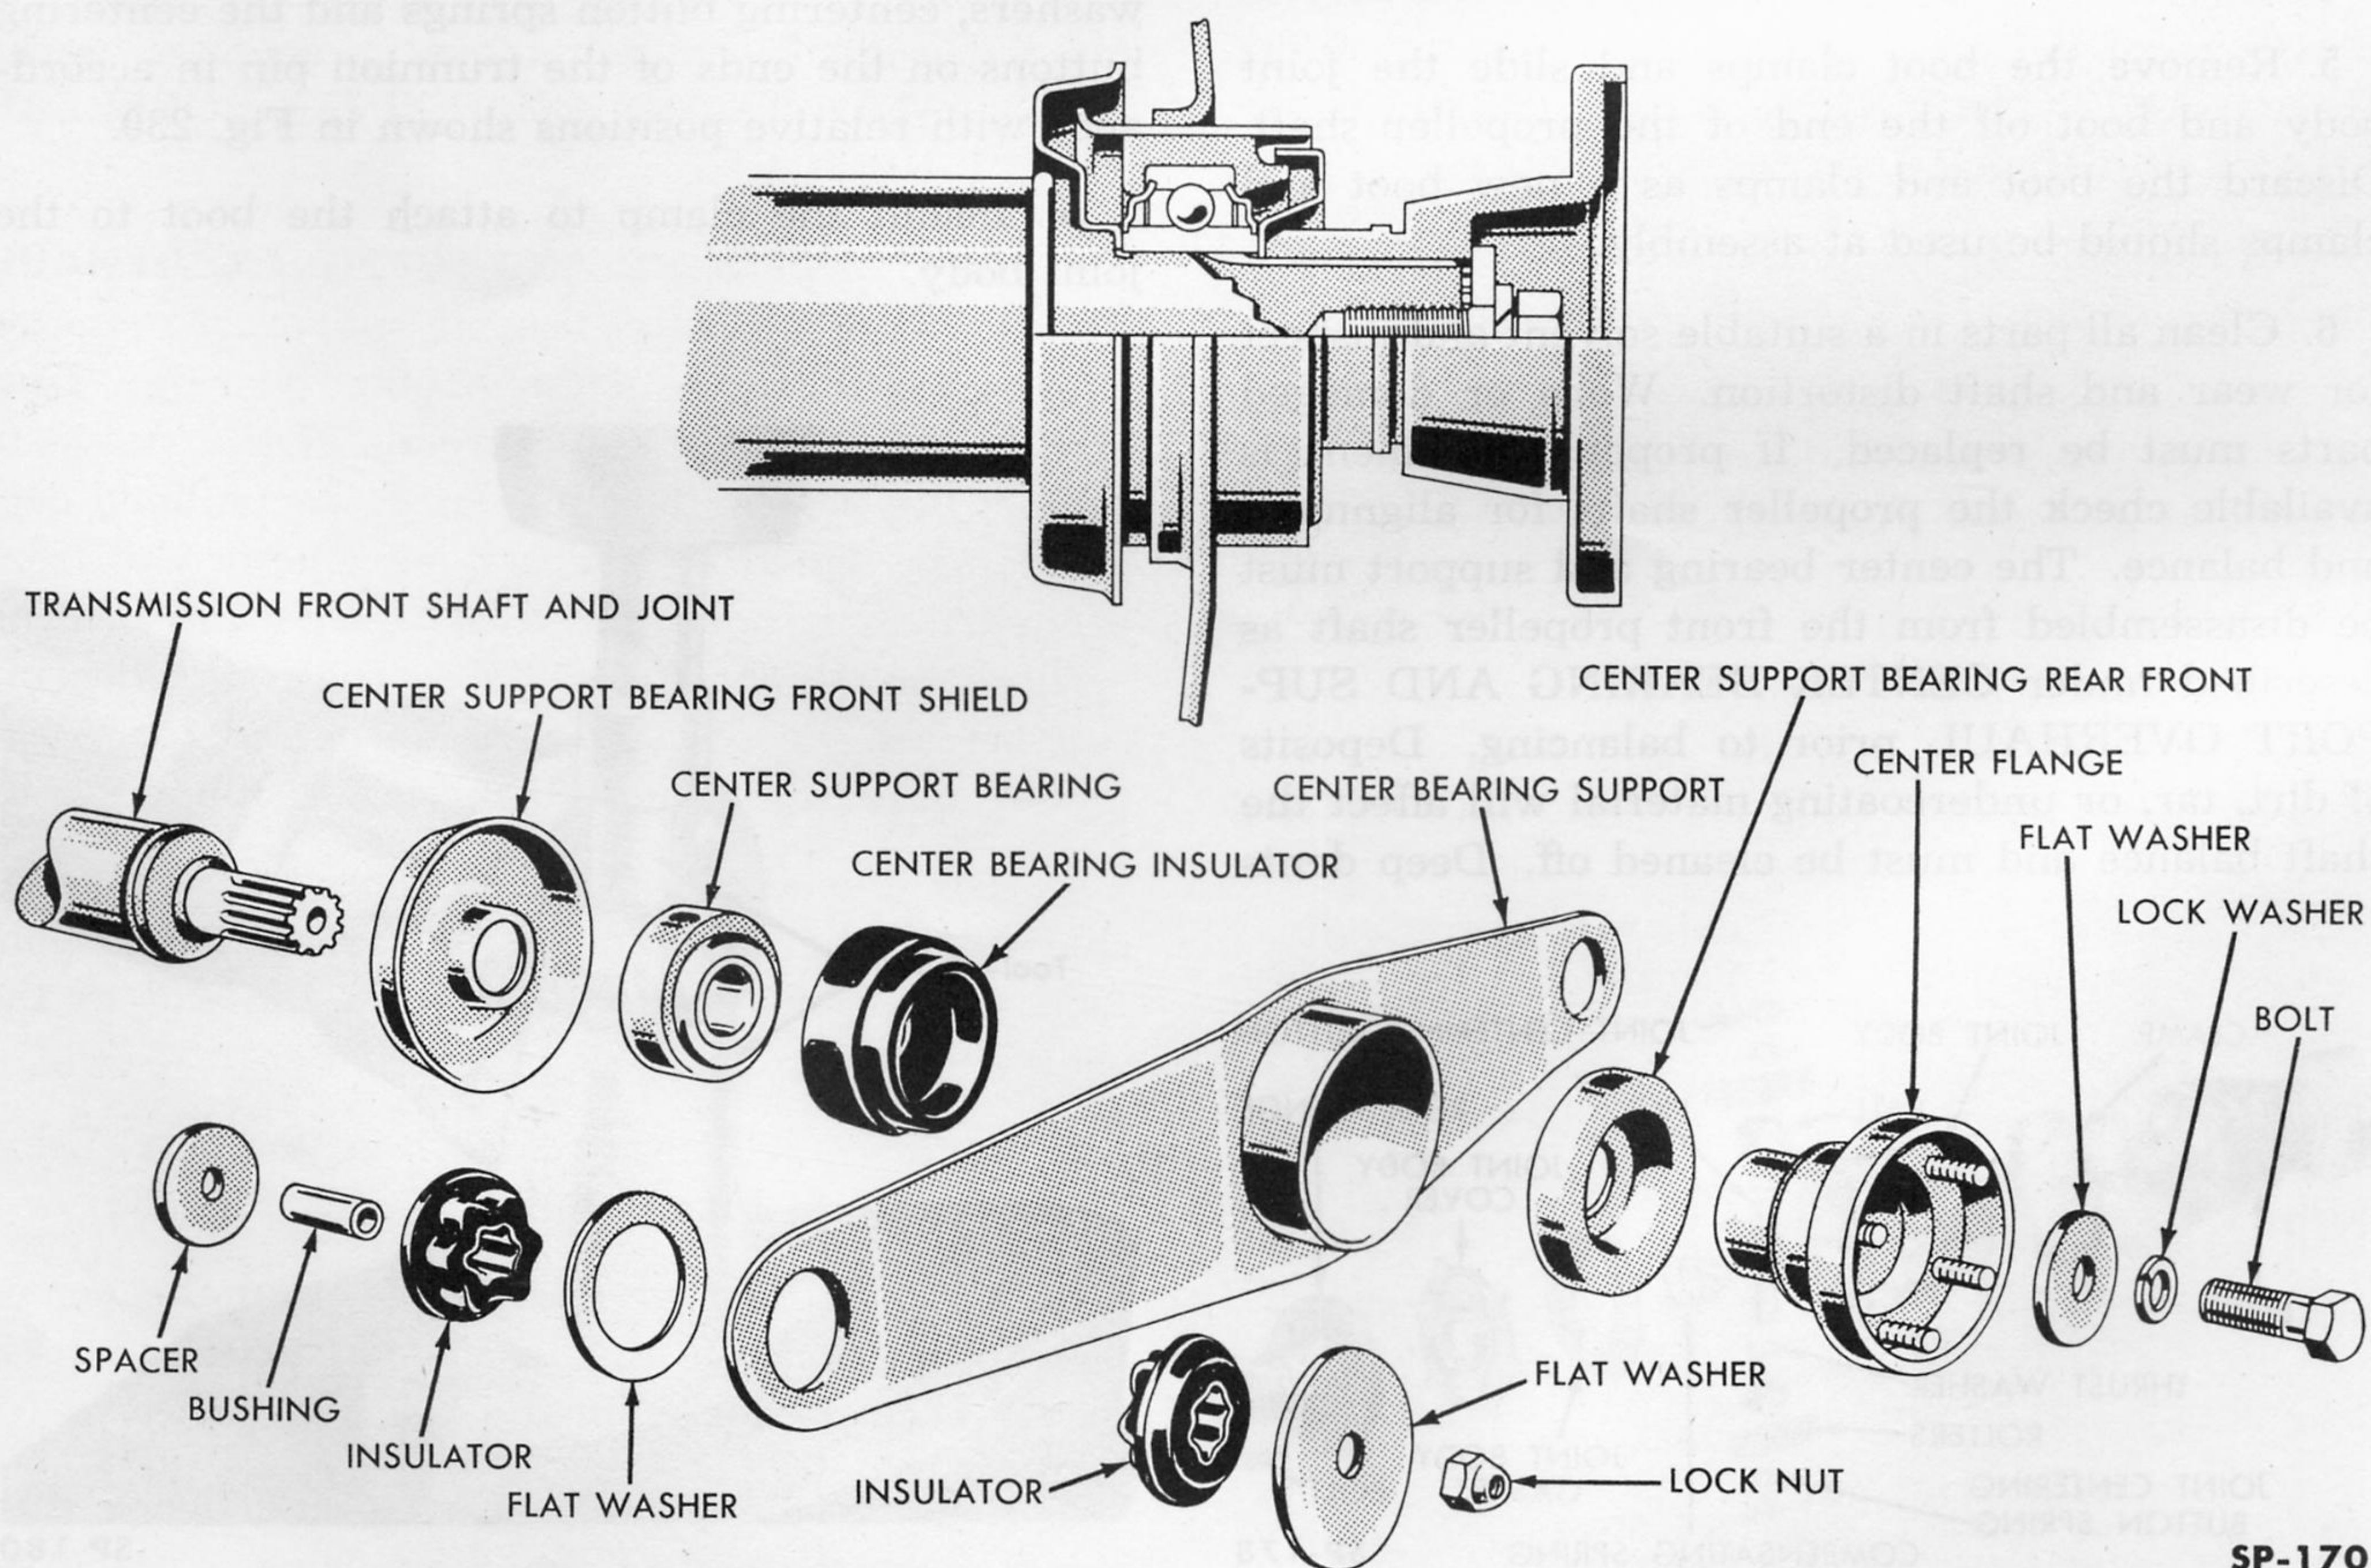
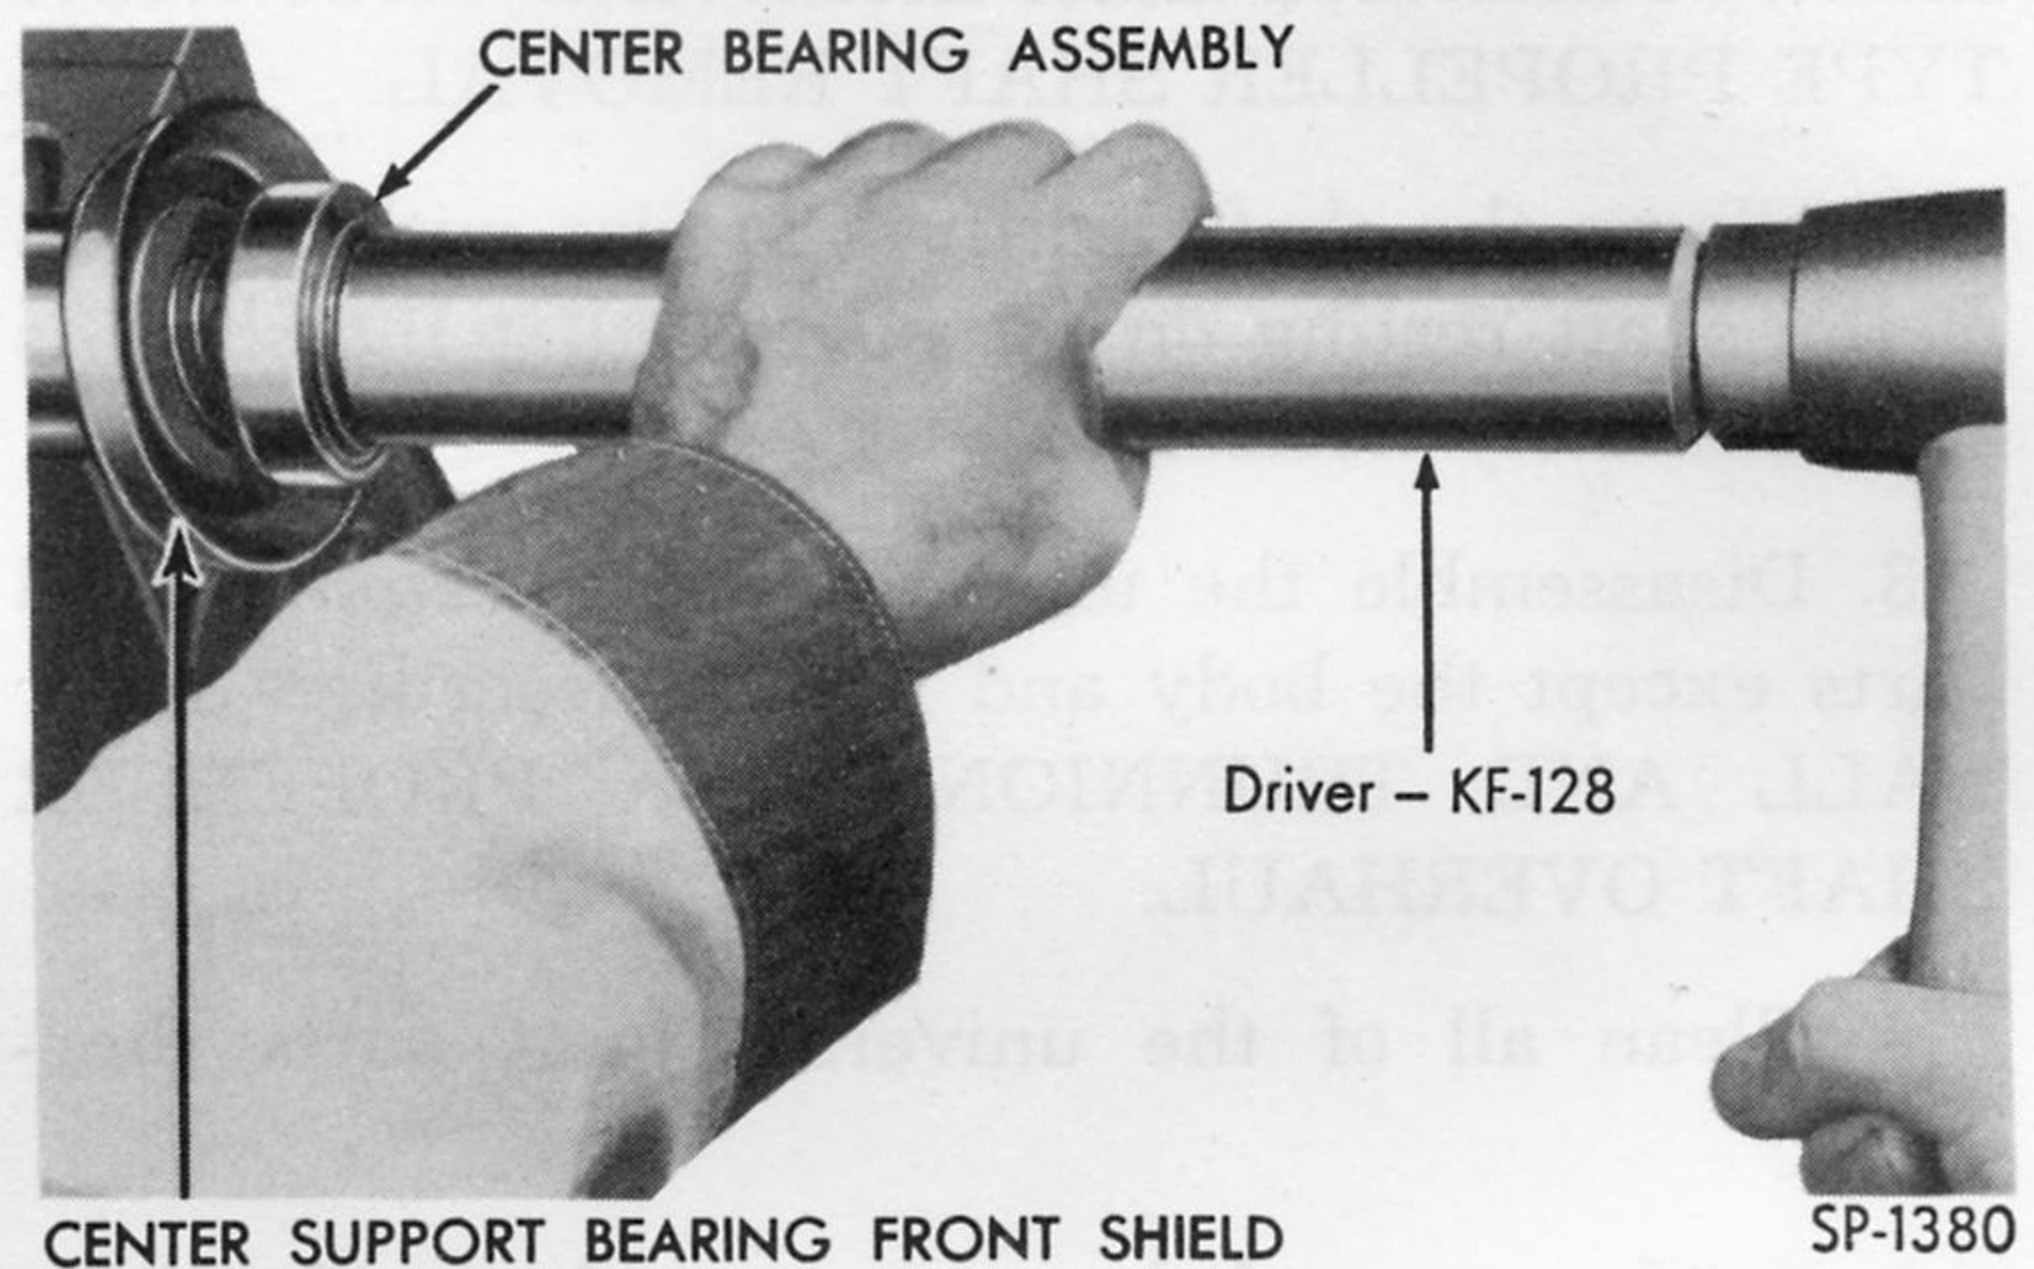

Fig. 232—Center Bearing and Support Assembly
Fig. 236—Installing Center Bearing
on each support stud and located between the number 3 crossmember and the support (Fig. 232).
3. Install the two center bearing support rear insulators, flat washers and lock nuts on the frame crossmember studs to attach the support. Parts must be in the relative positions shown in Fig. 232. Tighten the nuts on the studs with a torque wrench to 15-20 foot pounds torque.
The sleeve of the center bearing support is mounted over the rubber insulator of the bearing. Dust shields are mounted at both ends of the sleeve to protect the bearing and insulator. The splined center flange, bolted on the splined end of the front propeller shaft holds the dust shields and bearing securely on the shaft (Fig. 232). The center bearing support can be disassembled, inspected, parts replaced as required, and assembled as follows:
6. Install the front dust shield and the bearing on the splined end of the front propeller shaft. Drive the bearing on the shaft, using a special Driver KF-11 (Fig. 236), until the bearing is fully seated and supports the dust shield firmly in place. Refer to Fig. 232 for the relative position of parts on the propeller shaft.
8. Install the rear dust shield and the center flange, driving flange onto splined end of shaft carefully. Install flat washer, lock washer, and bolt. The proper relationship and position of the parts is shown in Fig. 232. Tighten the flange bolt until the flange and dust shield bottom against shaft shoulder. Finally, tighten bolt with a torque wrench to 25-30 foot pounds torque.